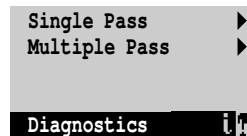

Figure 6-9 Video Diagnostics single pass or multiple pass
4. *Select Single Pass or Multiple Pass at the screen shown in Figure 6-9.*